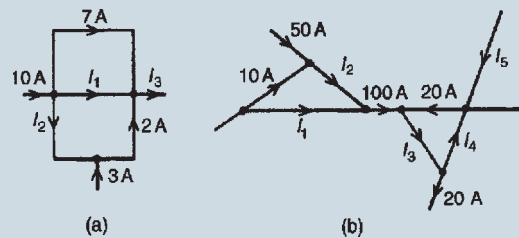

Figure 15.12
2. For the networks shown in Fig. 15.12, find the values of the currents marked.